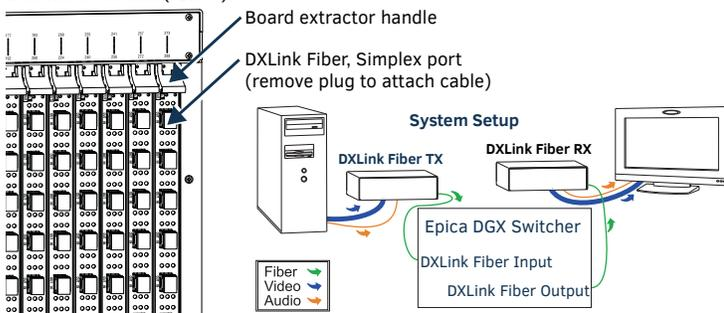

FIG. 1 FASTEN FIBER CABLES TO INPUT AND OUTPUT PORTS
- IMPORTANT:** Do not use board extractor handles (FIG. 1) to lift or maneuver enclosure.
The Simplex DXLink Fiber boards support Simplex or Duplex DXLink Fiber TXs and RXs; see applicable Quick Start Guide for details. Each board contains 16 fiber transceivers with one pair of IN/OUT ports per transceiver for connection to the appropriate Fiber TX or RX. Set up units according to the directions in their Quick Start Guide, installing a TX between each IN port and source device and an RX between each OUT port and destination device (FIG. 1).